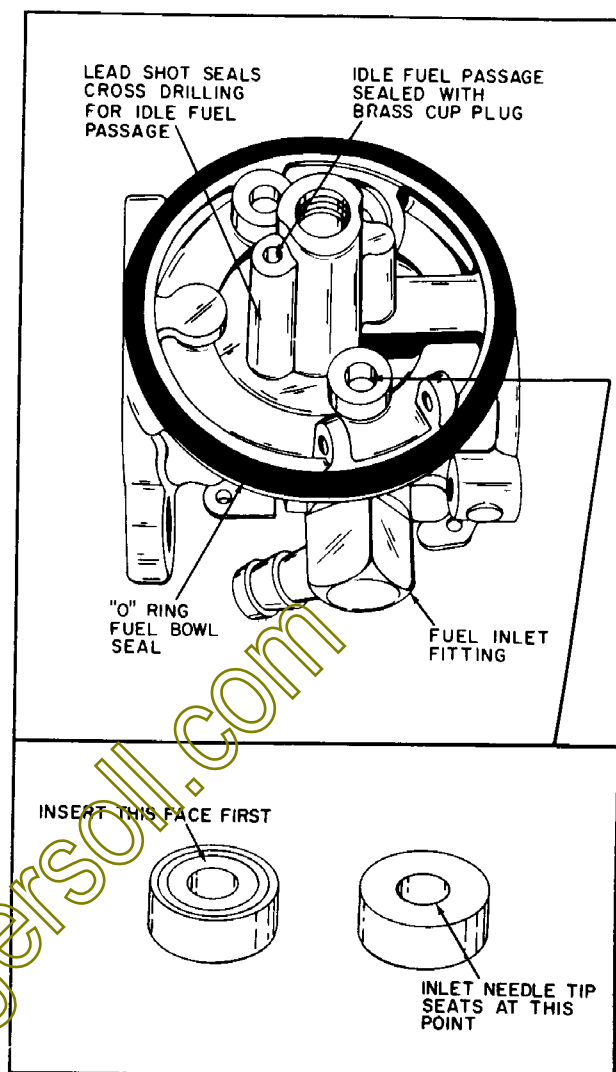

Figure 4-12
INLET NEEDLE AND SEAT - (Figure 4-12)
- b. The inlet needle seals on a Viton rubber seat in the carburetor body. To remove, put a few drops of heavy engine oil on the seat. Place an air hose to the inlet fitting and allow a short blast of air to pass through blowing out the seat. The seat may also be pried out with a short piece of hooked wire. Examine for cuts and scratches. The seat (Figure 4-12) is inserted grooved side first. Moisten the cavity with oil and use a flat faced punch to press the inlet seat into position.